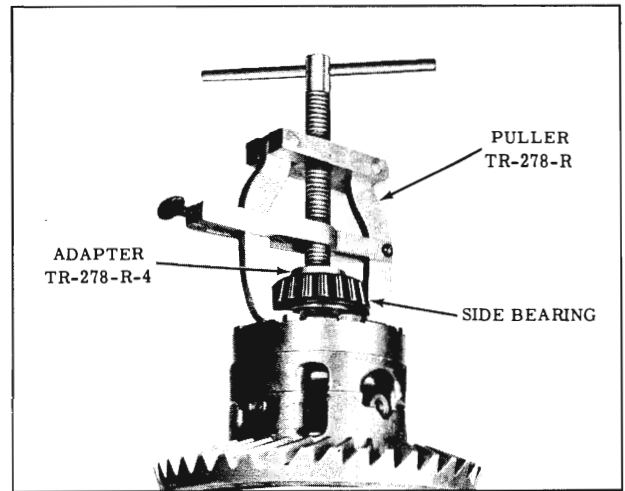

Fig. 6-40 Removing Side Bearing
- 1. If side bearings are to be removed, use Differential Side Bearing Remover TR-278-R and Adapter TR-278-R-4 as shown in Fig. 6-40. Be sure ends of puller are placed in recess in differential case or case cover.